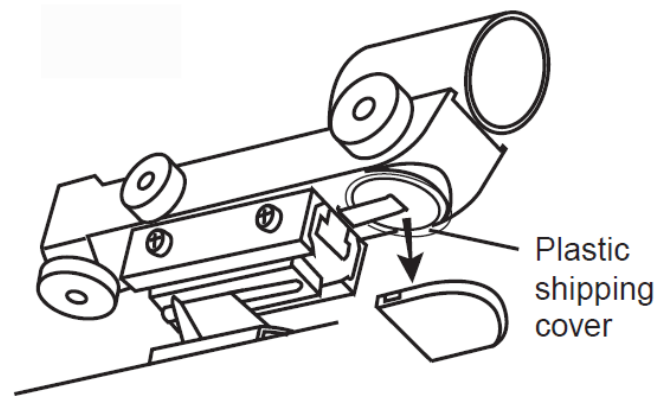

Fig.5.1.2b
- Open the battery cover by pulling it down (you can gently pry at the 2 small slots) and remove the plastic shipping cover over the battery(Fig.5.1.2b).